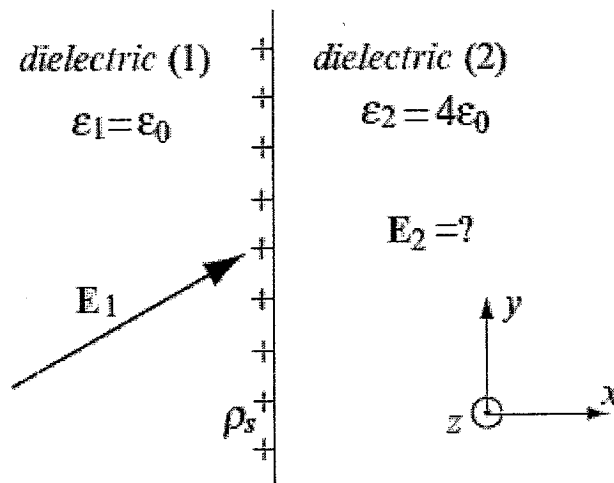

Fig.Q3-2
- (b). An interface between two dielectrics coincides with the  $z = 0$  plane as shown in Fig.Q3-2. The electric field intensity in medium (1) is